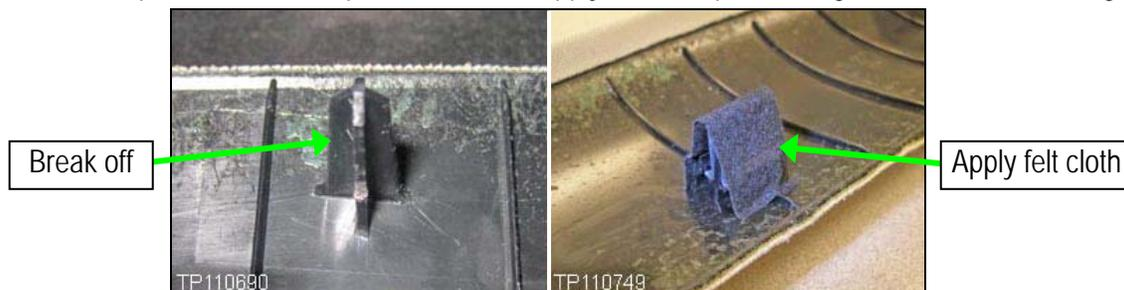

Figure 6
7. Break off flush both locator pins. See Figure 6, and arrows in Figure 5.
9. Cut four 50 mm pieces from the tape roll, and then apply on the clips. See Figure 6, and circles in Figure 5.